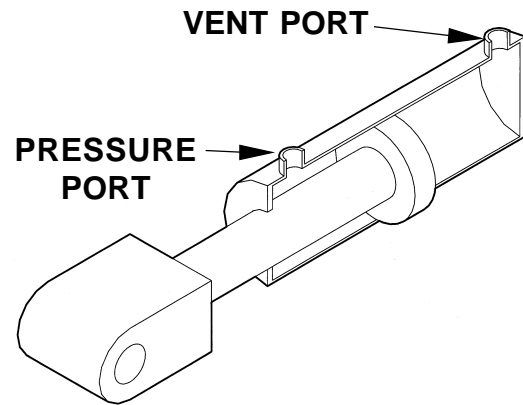

FIG. 1
3. Check the Hydraulic Cylinder (**FIG. 1**).